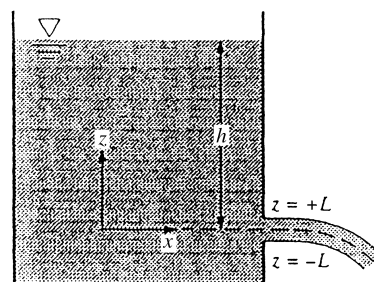

Fig. P3.6
3.6 When a gravity-driven liquid jet issues from a slot in a tank, as in Fig. P3.6, an approximation for the exit velocity distribution is $u \approx \sqrt{2g(h-z)}$, where h is the depth of the jet centerline. Near the slot, the jet is horizontal, two-dimensional, and of thickness $2L$, as shown. Find a general expression for the total volume flow Q issuing from the slot; then take the limit of your result if $L \ll h$.